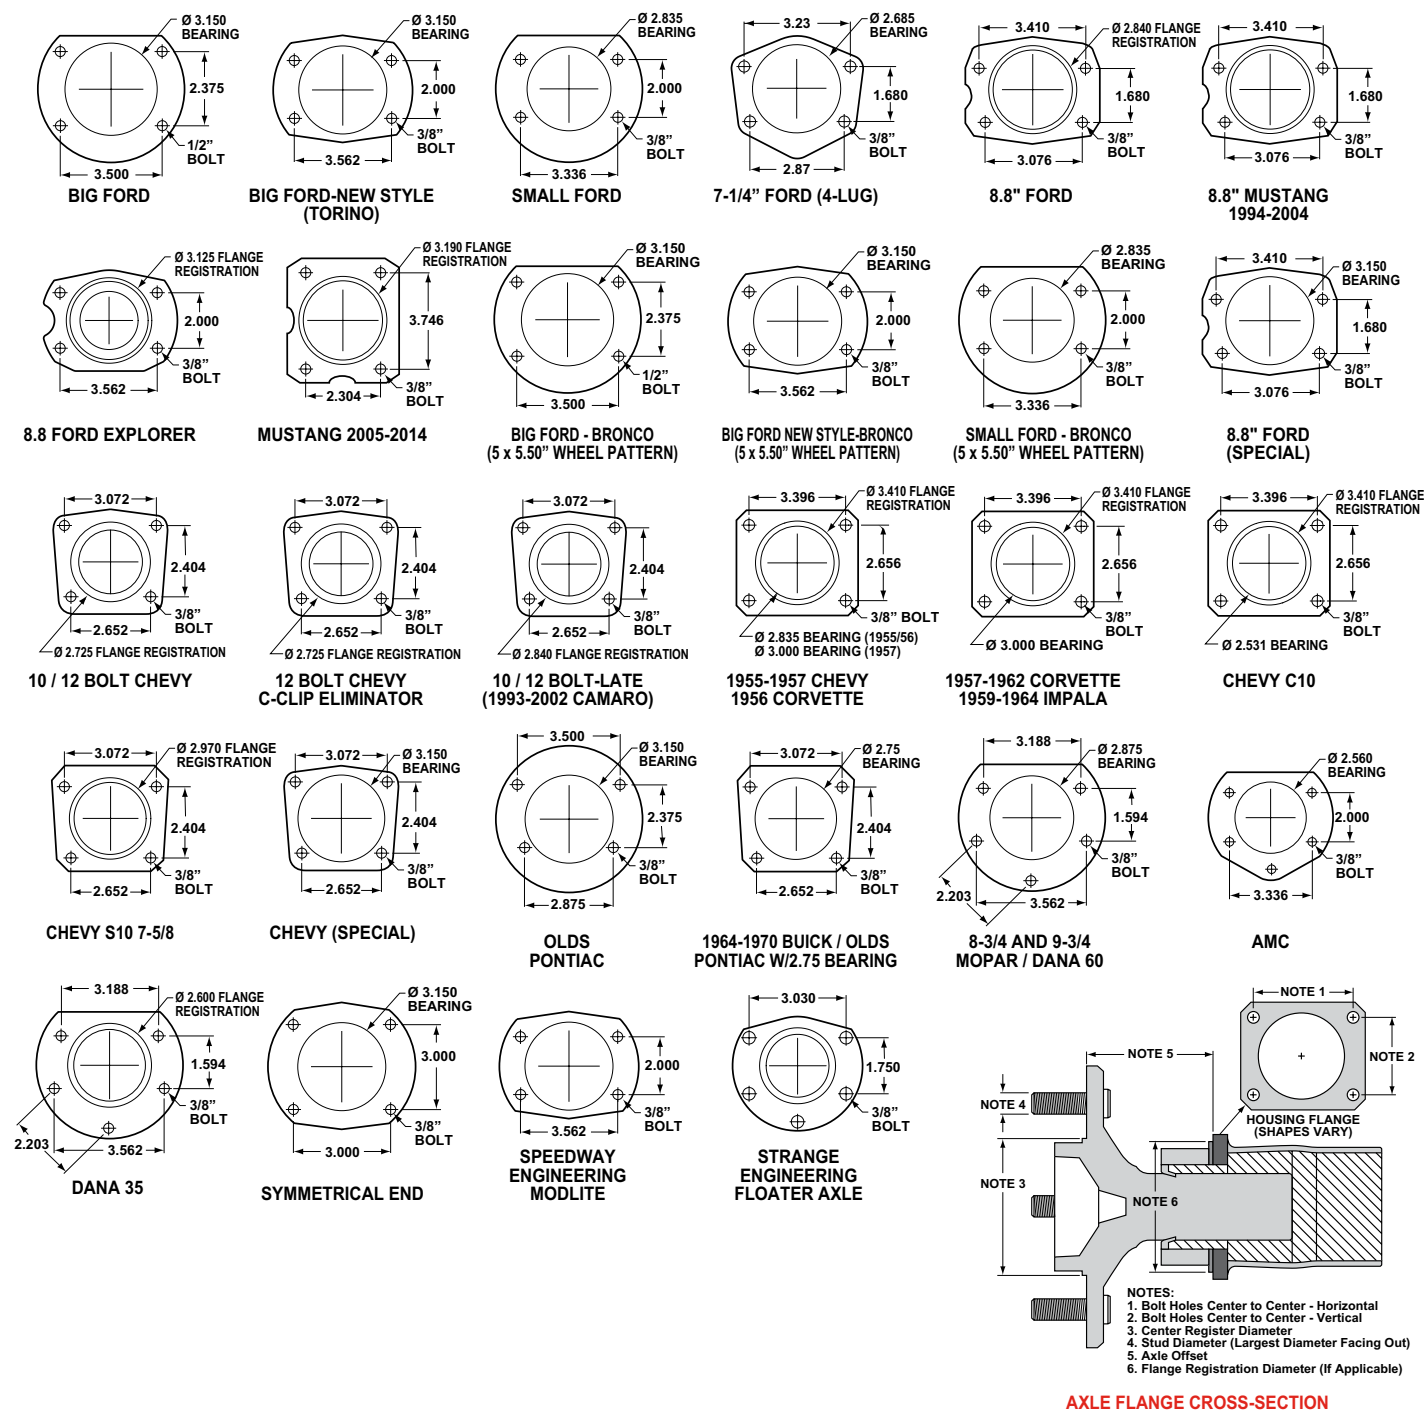

Figure 6. Rear Housing Flange Chart and Axle Flange / Offset Cross-Section
• Make sure this is the correct kit to fit your axle housing flange and axle offset. Multiple rear axle assemblies were available on 1966-77 Ford Broncos. Using Figure 6, check that your rear axle matches the description on page 1 of these instructions (i.e. Big Bearing Ford, New Style, 2.38 Offset).
- Dimension from wheel side of axle flange to wheel side of axle housing flange (see Figure 6, lower right hand corner). This dimension is critical to ensure proper alignment of the rotor to the caliper, and should match offset given in the kit description.